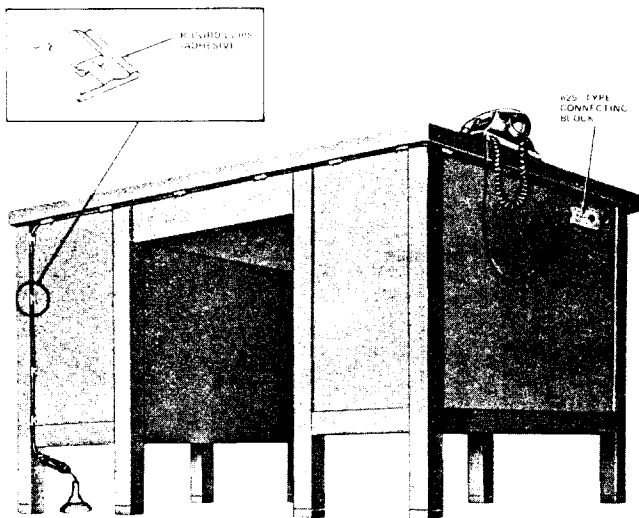

Fig. 9—Typical Wiring of Desk Having No Wiring Facilities
3.04 Wiring of a desk having no facilities for concealed wire and cable is shown in Fig. 9.